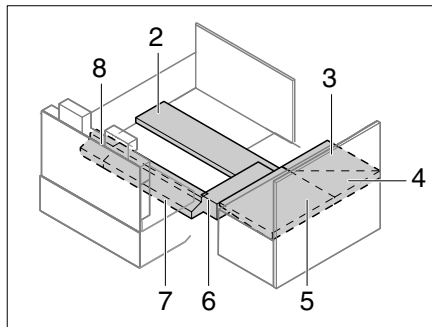

Fig. 232 Positioning the additional cushion
- Position the additional cushion (Fig. 232). The distance results from the insert pads.